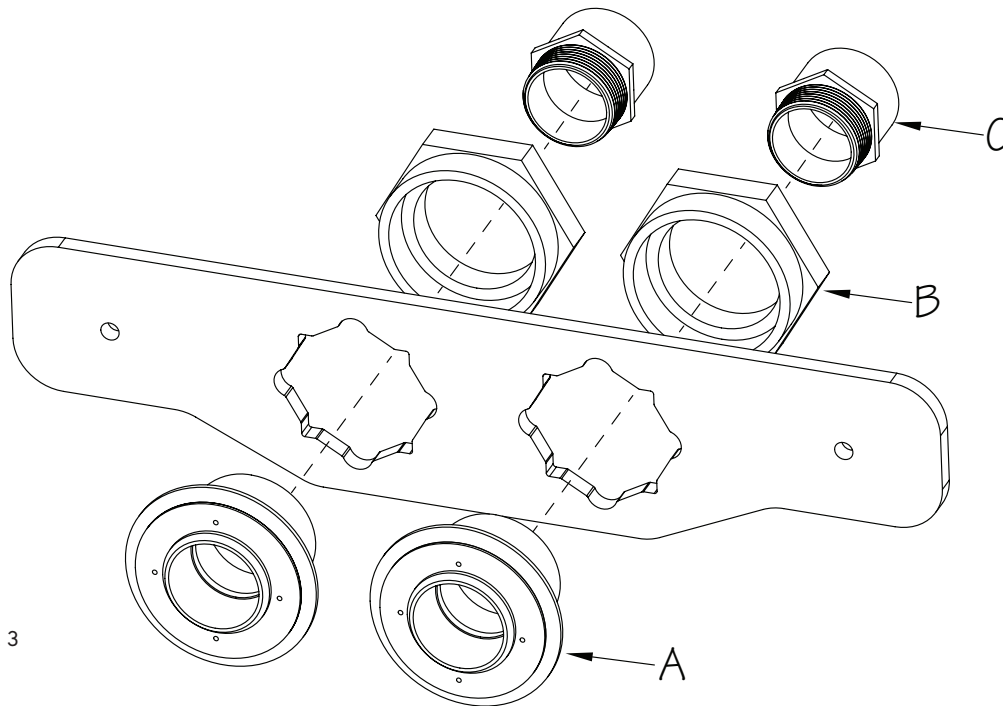

Fig. 3
1. Insert the Star Thru Wall Fittings (A) in the openings of the Mounting Bracket, making sure the holes around the perimeter of the fittings are oriented in the 12, 3, 6, and 9 o'clock positions as shown.
Thread the Locknuts (B) onto the fittings from the backside of the bracket. Apply Teflon tape or sealant to the threads of the FSlip x MPT Adapters (C) and then thread the Adapters into the Star Thru-Wall Fittings (Fig. 3).